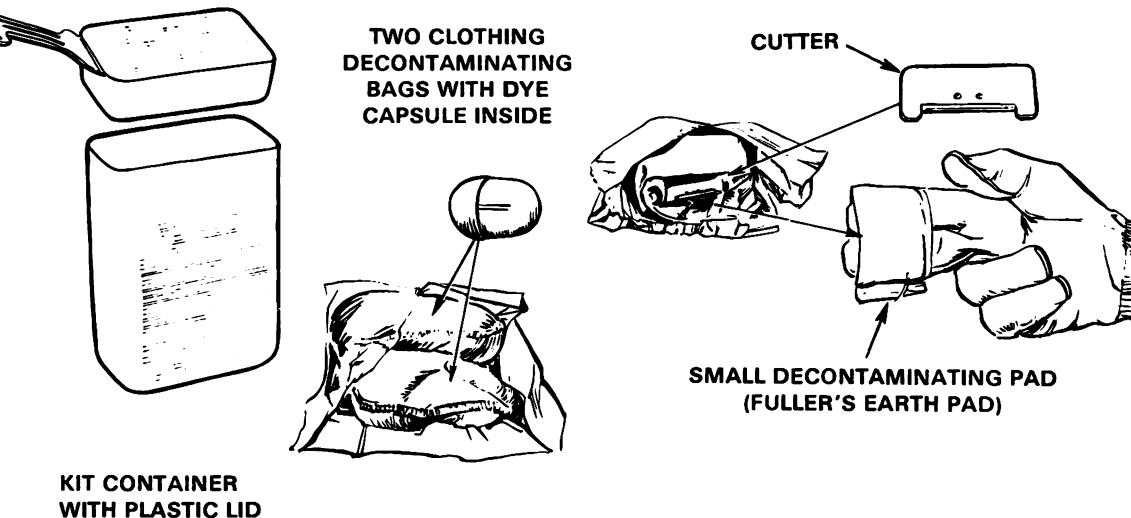

Figure 1. M13 decontamination kit.
1. Extract the M13 kit (figure 1) from the protective mask carrier.